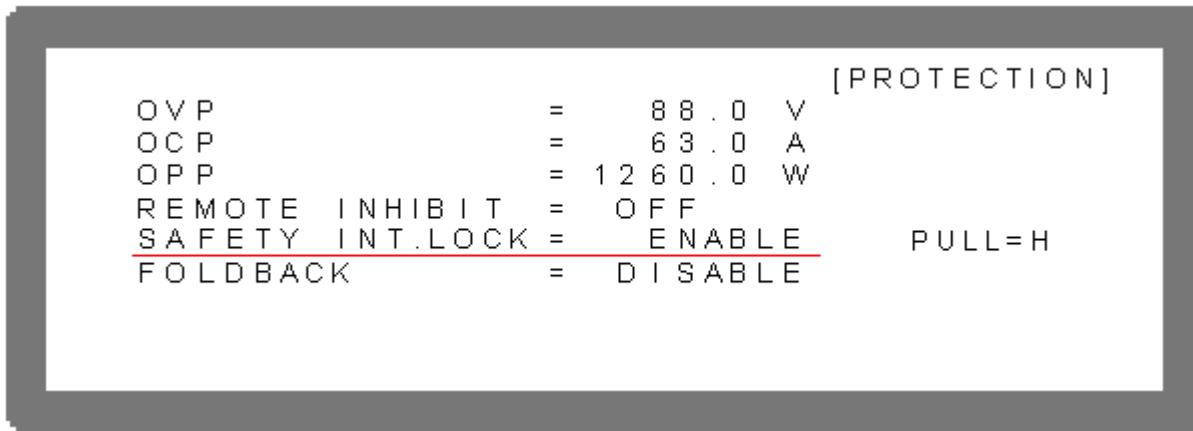

Figure 3-81
1. Use “” & “” keys to move the cursor to the column to be set as Figure 3-81 shows.